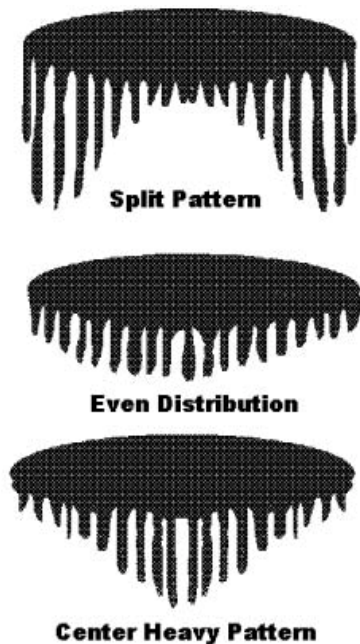

Figure 13 - Horizontal Test Pattern
(1) Spray a horizontal test pattern (air cap horns in a vertical position). Hold the trigger open until the paint begins to run. There should be even distribution of the paint across the full width of the pattern. (see Figure 13). The fan control knob is normally adjusted fully counter-clockwise. If the distribution is not even but is symmetrical a different fluid tip may help. If the pattern is not symmetrical, there is a problem with either the air cap or the fluid tip/needle that must be corrected. Refer to the Troubleshooting Section for examples of faulty patterns to help diagnose your problem.